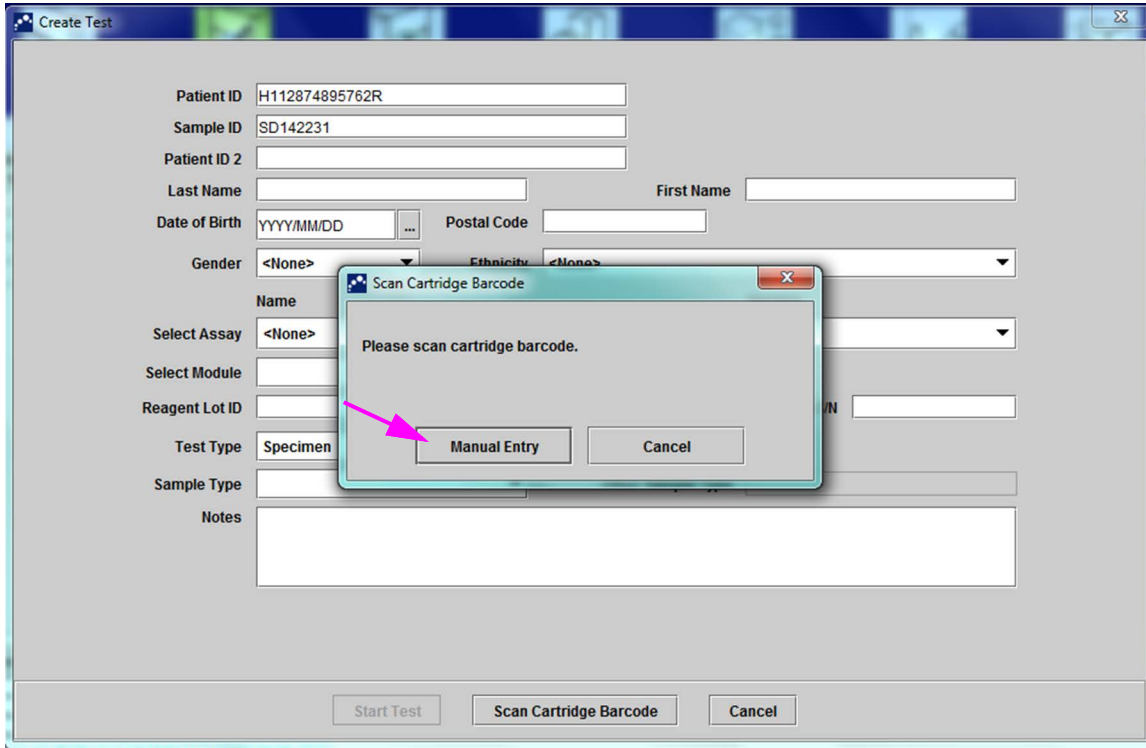

Figure 5-19. Scan Cartridge Barcode Dialog Box
3. Scan the Sample ID barcode using the supplied barcode scanner. See Section 5.5. The Scan Cartridge Barcode dialog box appears. See Figure 5-19.